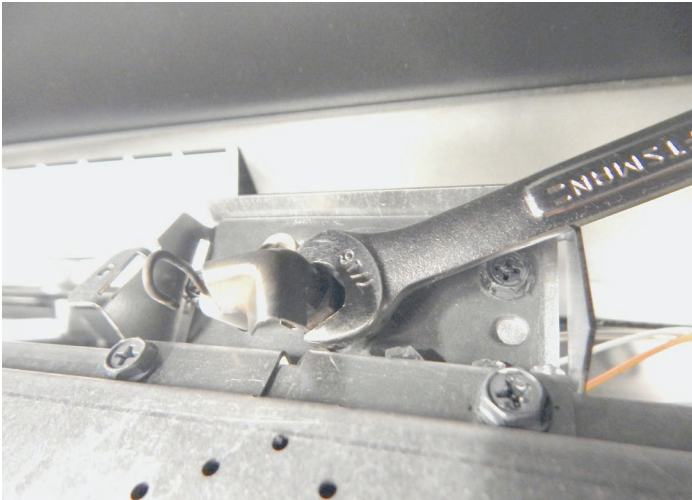
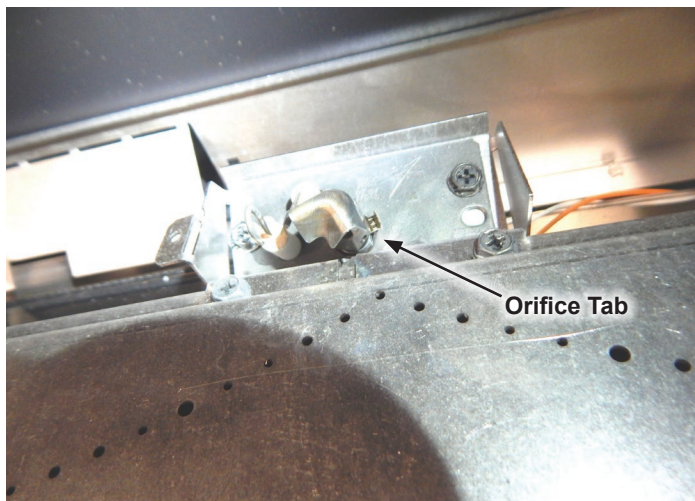

Figure 9
Figure 10
16. Re-install the (4) 5/16" Hex screws removed in step 10 above to secure the Burner assembly.
17. To convert the pilot from Propane gas to Natural gas, loosen the pilot hood assembly slightly using a 7/16" wrench. **See Figure 9.** Just below the pilot hood and nut is a small orifice tab that slides sideways. **See Figure 10.** A small screwdriver may be used to gently move the small orifice tab over to change the gas type. Do not force. The orifice tab has gas types stamped on the tab. Make sure the type of gas being converted to is indicated on the tab, then re-tighten the Pilot hood so that the hood flame points forward to the burner, and left to the sensor. Do not over-tighten. **See Figure 9.**